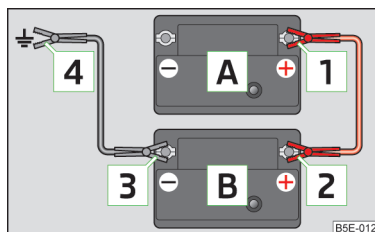

Fig. 195
- Attach clamp **1** to the positive terminal of the discharged battery **A** » Fig. 195.